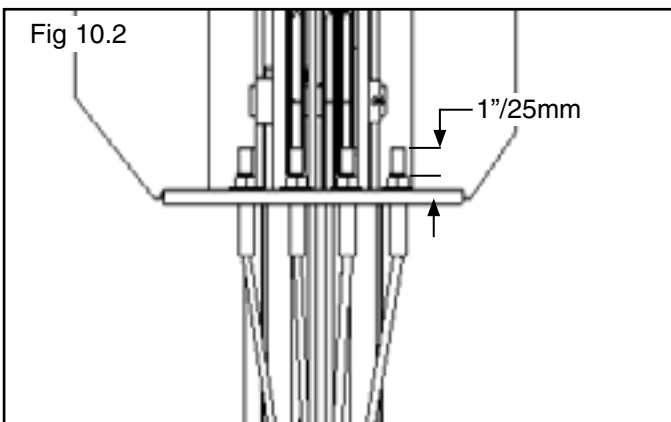

Fig 10.2
7. Raise lift until the cylinder is fully retracted and the lift stops. Adjust each cable so that each corner of each ramp rests at 80" above the ground. It may be necessary to tighten or loosen each cable nut to reach the proper height. The cable nuts must be tightened until there is at least 1" of threading protruding from the top of the nut. (See Fig. 10.2)